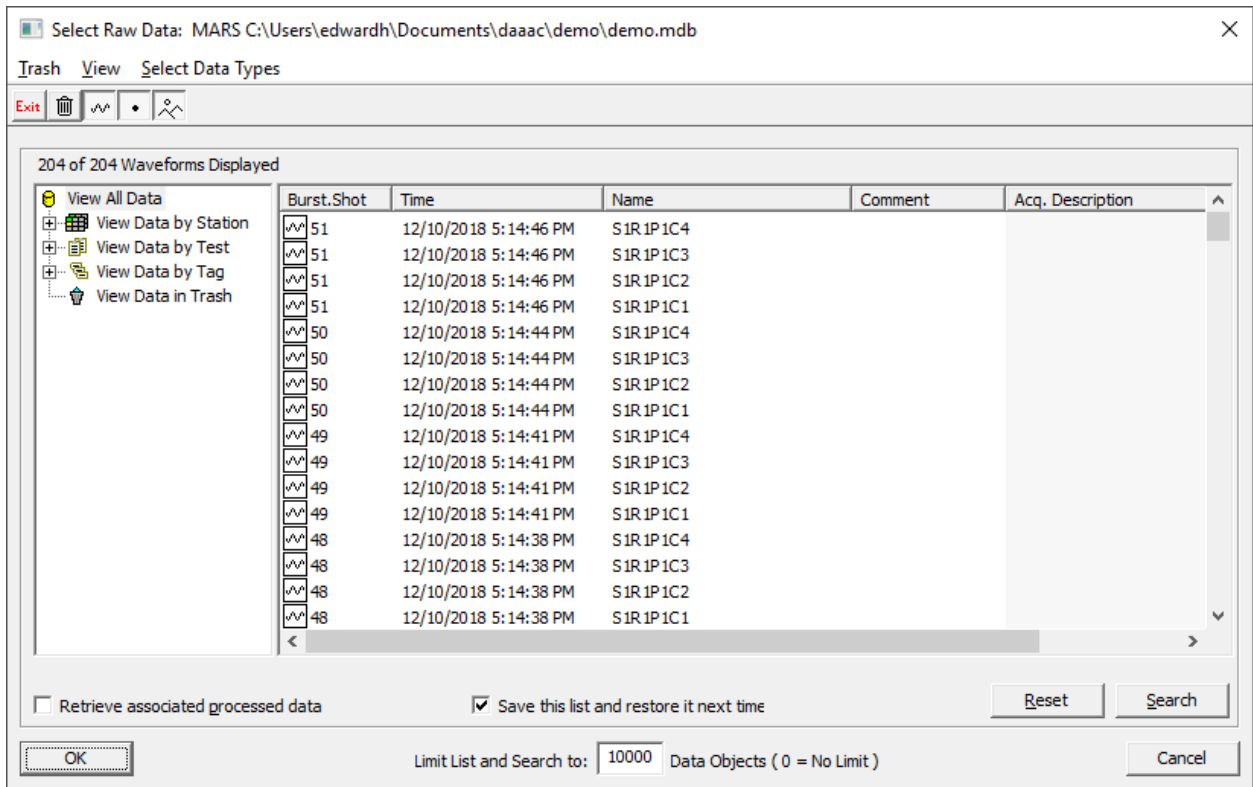

Figure 6-2 Waveform selection dialog
1. From the Analyze File menu, select Retrieve, then either Raw or Processed. The Select Waveforms dialog will appear, shown in Figure 6-2.